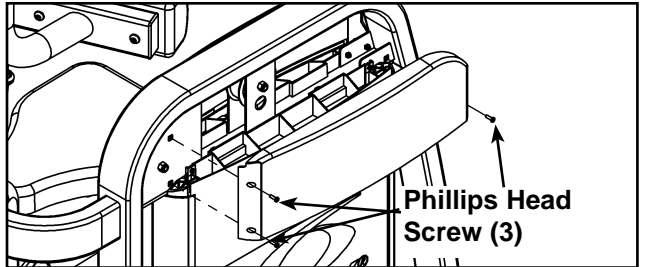

Figure 15
- C. Install the three Phillips head screws securing the top (back) shroud. See Figure 15.